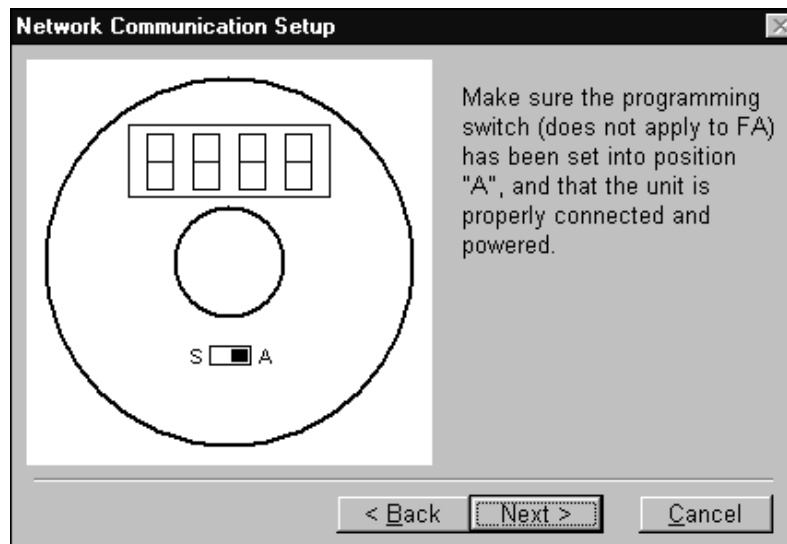

Figure 3-9: Switch Selection/Verification Screen
- The next screen (Figure 3-9), prompts you to make sure the switch is in the “A” position. This does not apply to the FA sensors. However, do check once more that power and all connections are secure. If everything is correct, click Next.